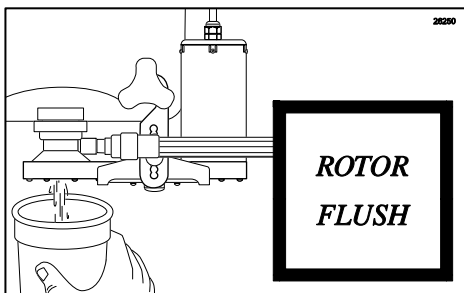

Figure 165
- After all flavors have been installed and lines primed, press the ROTOR FLUSH key to clean the Injector Head. (See Figure 165.)